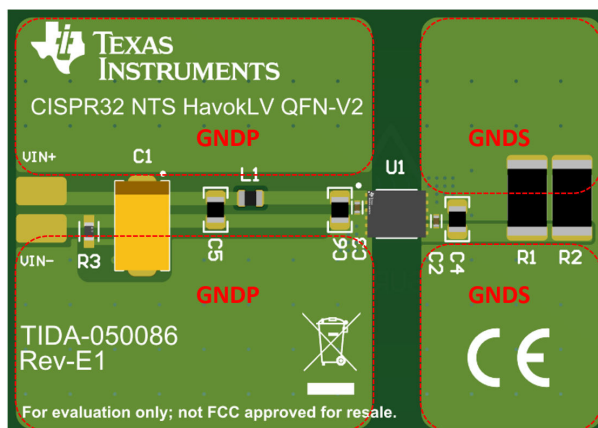

Figure 2-7. UCC33420 CISPR32 Layout
- Due to the H-field coming from integrated transformer, the placement of ground planes on both sides of the device is crucial for passing RE. The ground planes provide low impedance at the return of the switching loop when used to connect the ground pins of the device on both sides. Moreover, these planes act as Faraday shields, mitigating the H-field coming from the transformer. PCB assembly images are shown in Figure 2-7.